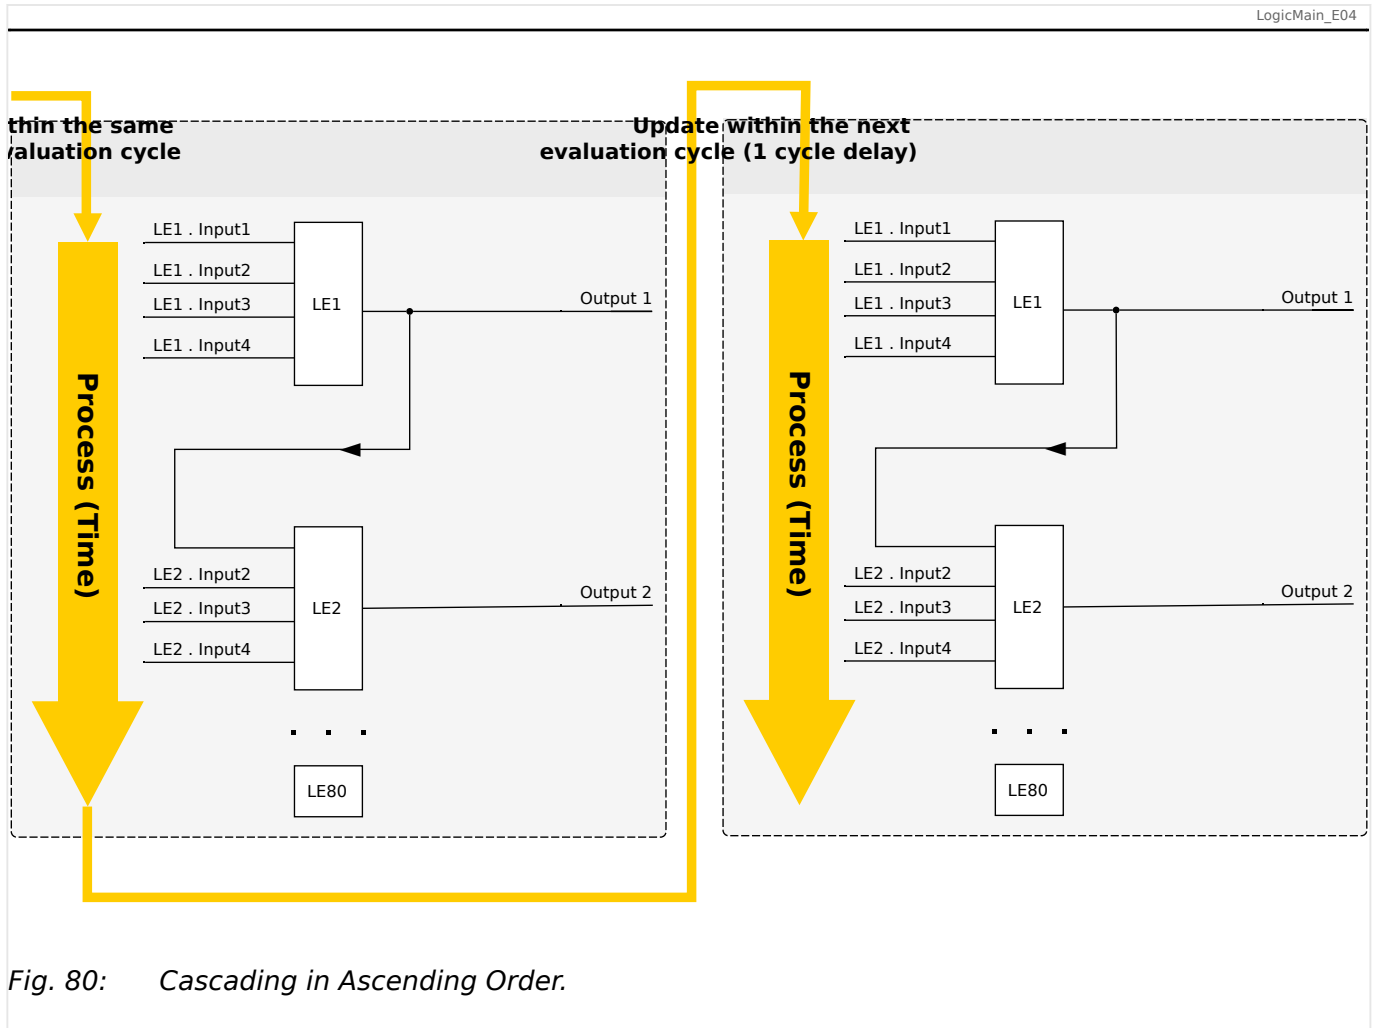
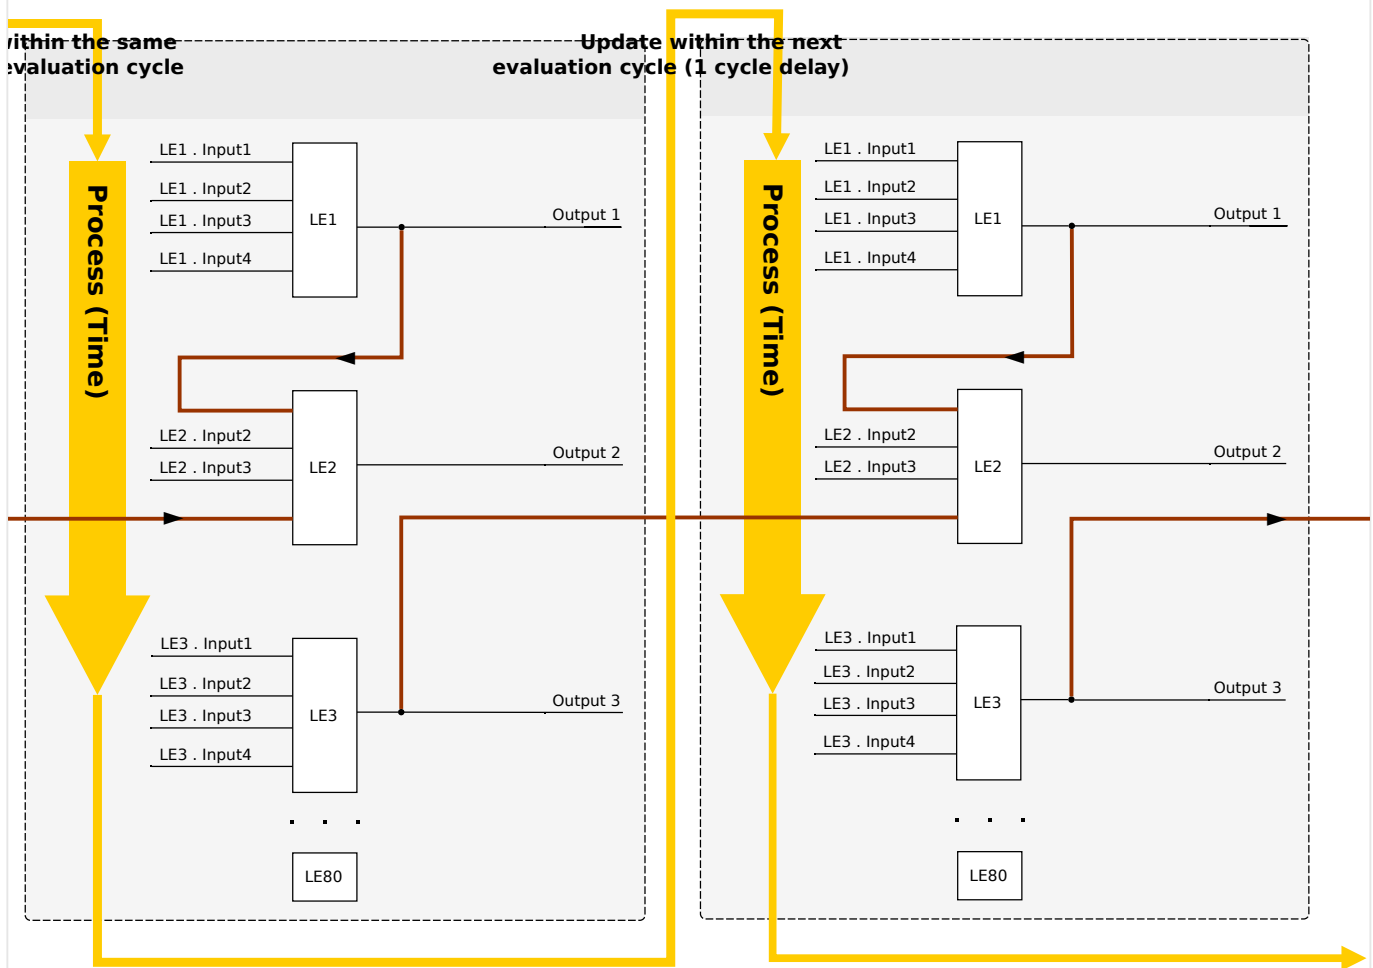

Fig. 80: Cascading in Ascending Order.
Fig. 81: Cascading in Descending Order.
- **Ascending** sequence means that some output is fed into the input of a logic equation with **higher** number. For instance, diagram ↪Fig. 80 below shows an example where the result of Logic Equation LE1 is used as an input of Logic Equation LE2.
- **Descending** sequence means that some output is fed into the input of a logic equation with **lower** number. For instance, diagram ↪Fig. 81 shows an example where the result of Logic Equation LE3 is used as an input of Logic Equation LE2.
Both ascending and descending sequences may be used and combined one with the other, with no immediate difference. However, due to the evaluation of all equations in ascending order the actual run-time values that are fed in at the input of an equation will have a different “age”, as is shown in ↪Fig. 80 and ↪Fig. 81 below.
In the example shown in Fig. 81 above, “Logic Equation 2” uses the output states of two other equations, “Logic Equation 1” and “Logic Equation 3”. The result of “Logic Equation 1” is used in ascending order and has therefore been evaluated within the same process cycle. The result of “Logic Equation 3” is used in descending order and has therefore been evaluated in the previous process cycle.